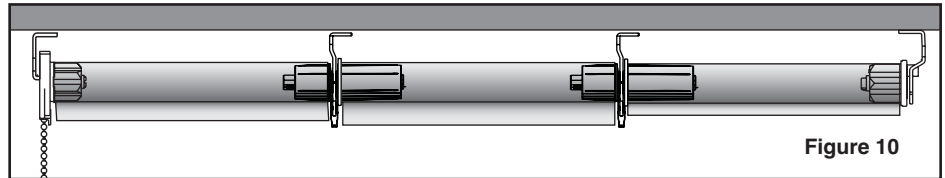

Figure 10
10. Slide the assembly upward and into the link brackets making sure the curved edge of the bearing faces upward. (See Figure 10)